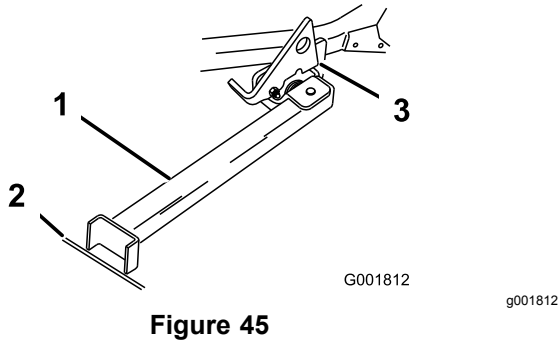

**Figure 44**
2. Remove the bracket pin (Figure 44).
- Swing the stand foot out front and slide it toward machine, into the bottom of slot (Figure 44 and Figure 45).
- Return the stand to its rest position (Figure 44).